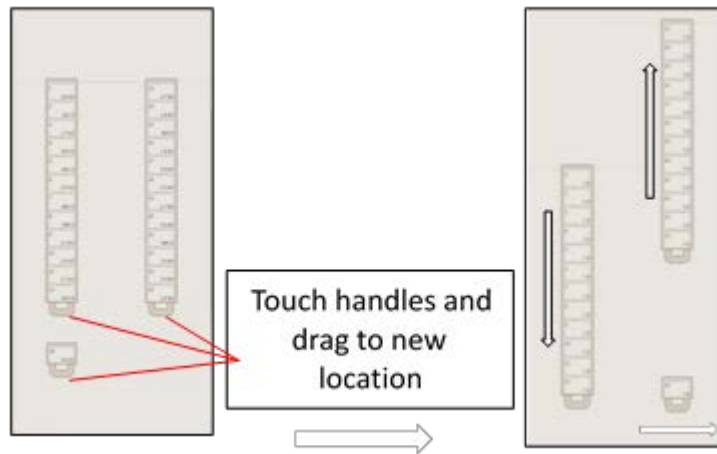

Figure 6.10: You can drag the leads up, down or switch sides.
- Touch the handle at the bottom of the lead image to move it up, down, or switch sides to a position that reflects the lead location in the most recent fluoroscopy image (see Figure 6.10). This will aid in determining the best stimulation and measurement electrode combination.